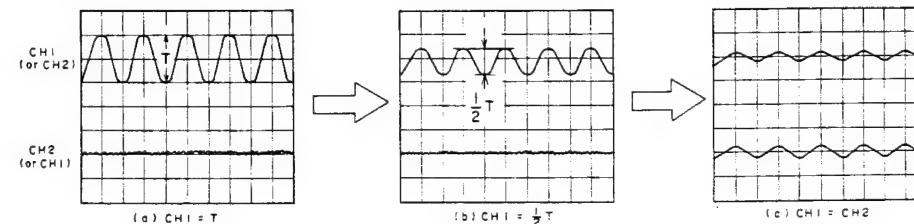

Fig.4-10
- Connect an oscilloscope's CH-1 to the P327 ① pin (CTL OUT) on the MAIN PCB and CH-2 to the AUDIO OUT.
- Turn the ①, ② and ③ screws alternately to obtain 1/2 of the output level of either CH-1 or CH-2 whichever has an output signal as shown in Fig.4-10.